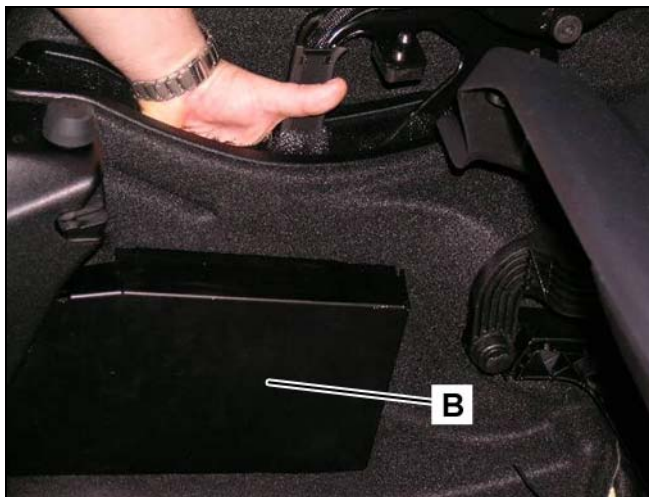

Figure 30
8. Remove the paper from between the Velcro and press in the trunk paneling from behind on the SDARS bracket assembly (B, Figure 30).